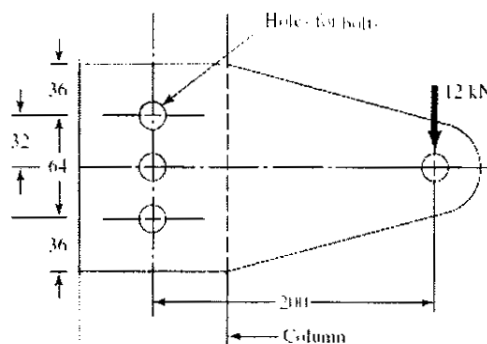

Fig. Q3
3. a) A steel plate is subjected to a load of 12 kN and fixed to a channel by means of 3 identical bolts as shown in Fig. Q3. Material of bolts is C30 C.S ($\sigma_y=340 \text{ N/mm}^2$) and F.S is 3. Determine the nominal dia. of the bolts. Neat sketch of the force diagram should be drawn.